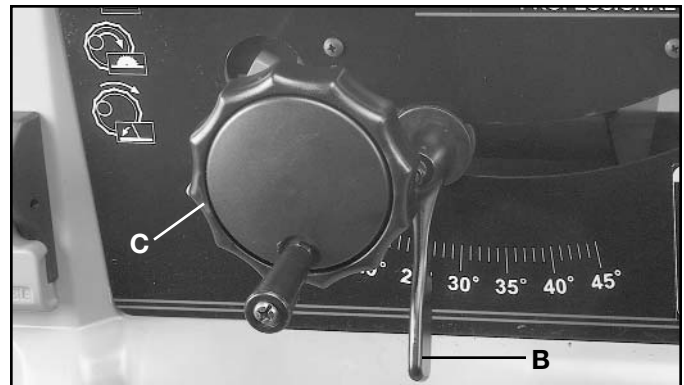

Fig. 19
⚠ WARNING: THE BLADE TILTING LOCK HANDLE (B) FIG. 19, MUST BE LOCKED DURING ALL CUTTING OPERATIONS.
To tilt the saw blade, loosen blade tilting lock handle (B) Fig. 19, rotate outer wheel (C) until the blade is at the desired angle and tighten lock handle (B).
⚠ WARNING: THE BLADE TILTING LOCK HANDLE (B) FIG. 19 MUST BE LOCKED DURING ALL CUTTING OPERATIONS.